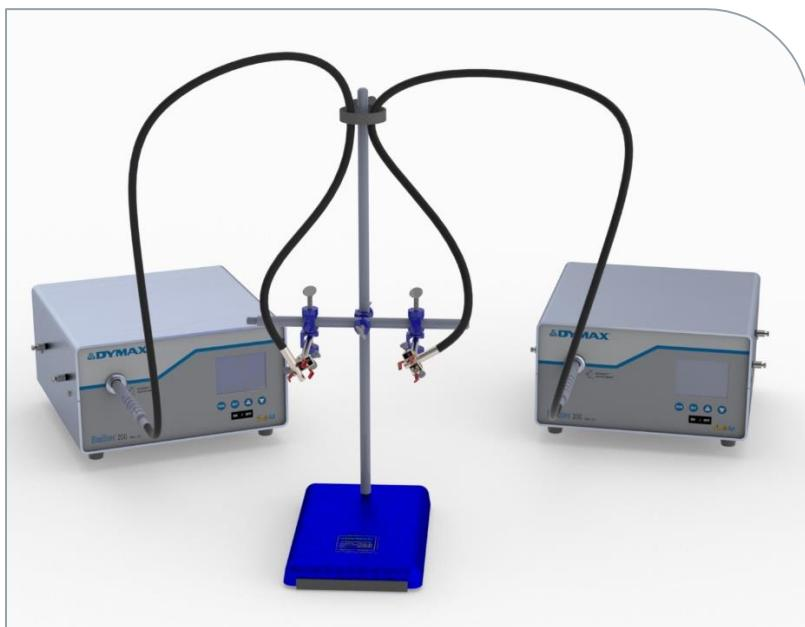

**Figure 10.** Attach the Lightguide to the Stand
7. Attach the Lightguide to the Stand by clamping the metal part of the Lightguide in the Equipment Clamp (Figure 10). Note the Lightguide placement. Do not overtighten the Thumbscrews holding the Lightguide.